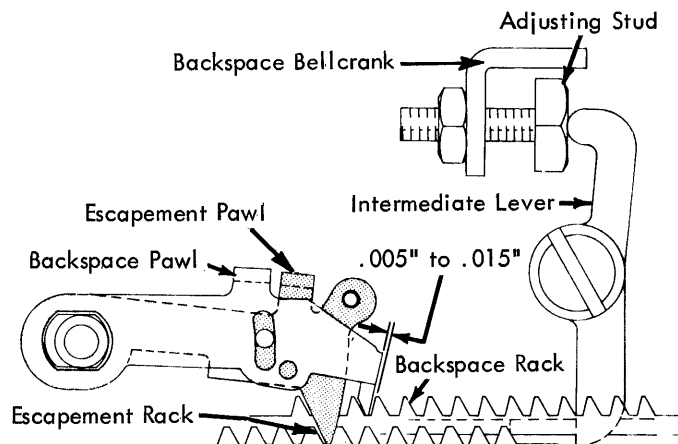

FIGURE 200. Backspace Rack Adjustment
3. Backspace Rack - With the backspace rack in the rest position, a clearance of .005" to .015" should exist between the working surfaces of the rack tooth and the backspace pawl (Fig. 200). Adjust the hexagon headed stud in the backspace bellcrank to obtain this condition.